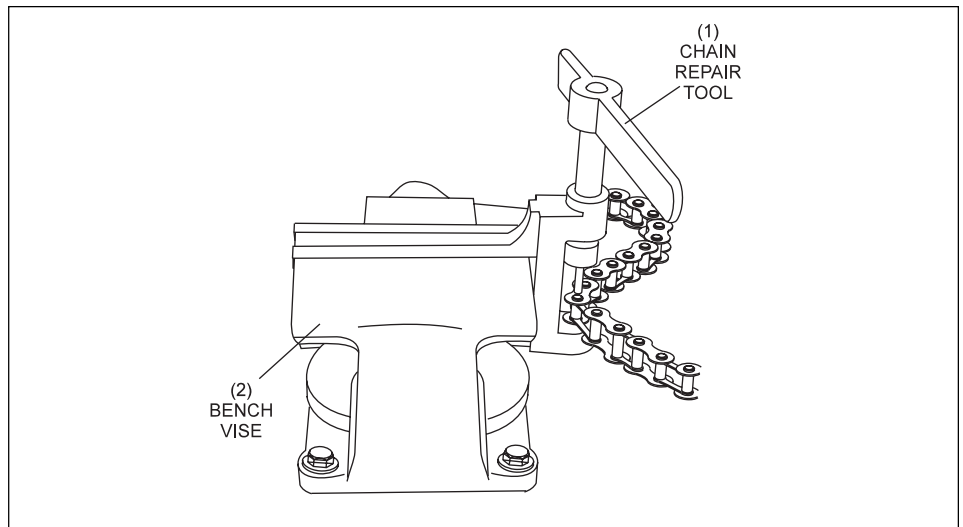

Figure 8-21. Chain Repair Using Vice.
2. Install the chain repair tool in a vise as illustrated in *Figure 8-21*.